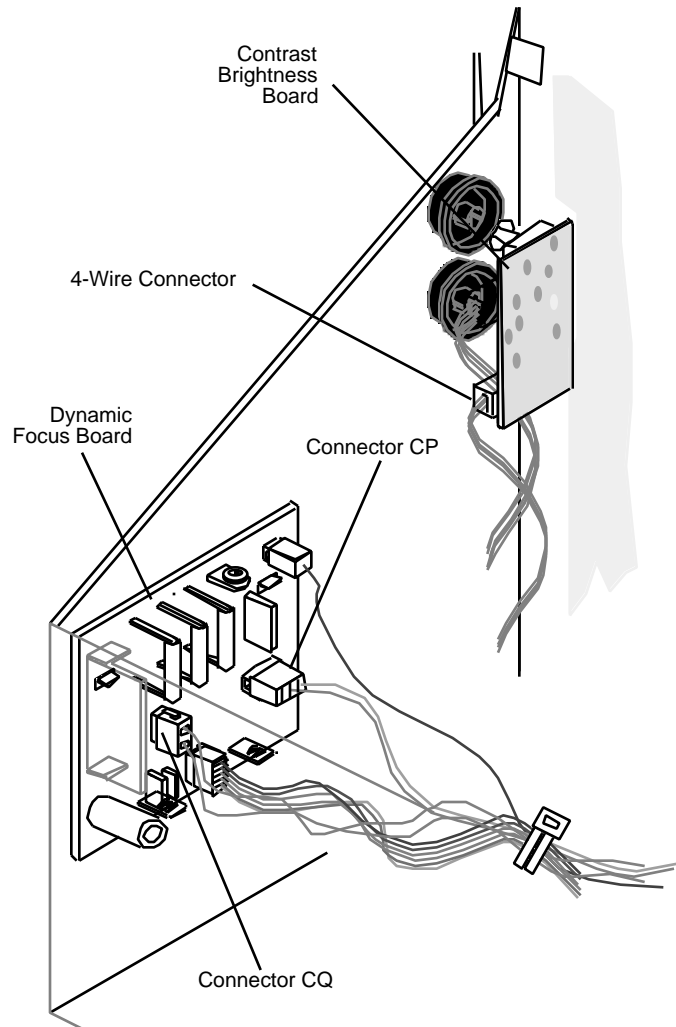

FIGURE 21
5. Disconnect the 4-wire connector from the contrast brightness board (Figure 21) . Open the two tie wraps to the left of the neck of the CRT.
6. Disconnect the following connectors from the dynamic focus board (Figure 21) :